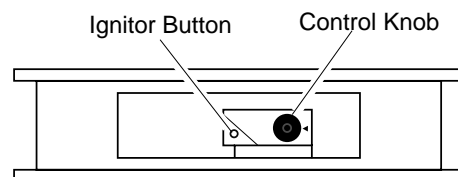

Figure 18 - Control Knob and Ignitor Button Location
4. Wait five (5) minutes to clear out any gas. Then smell for gas, including near the floor. If you smell gas, **STOP!** Follow "B" in the safety information, column 2. If you don't smell gas, go to the next step.
5. Turn control knob counterclockwise to the **PILOT** position. Press in control knob for five (5) seconds (see Figure 18).